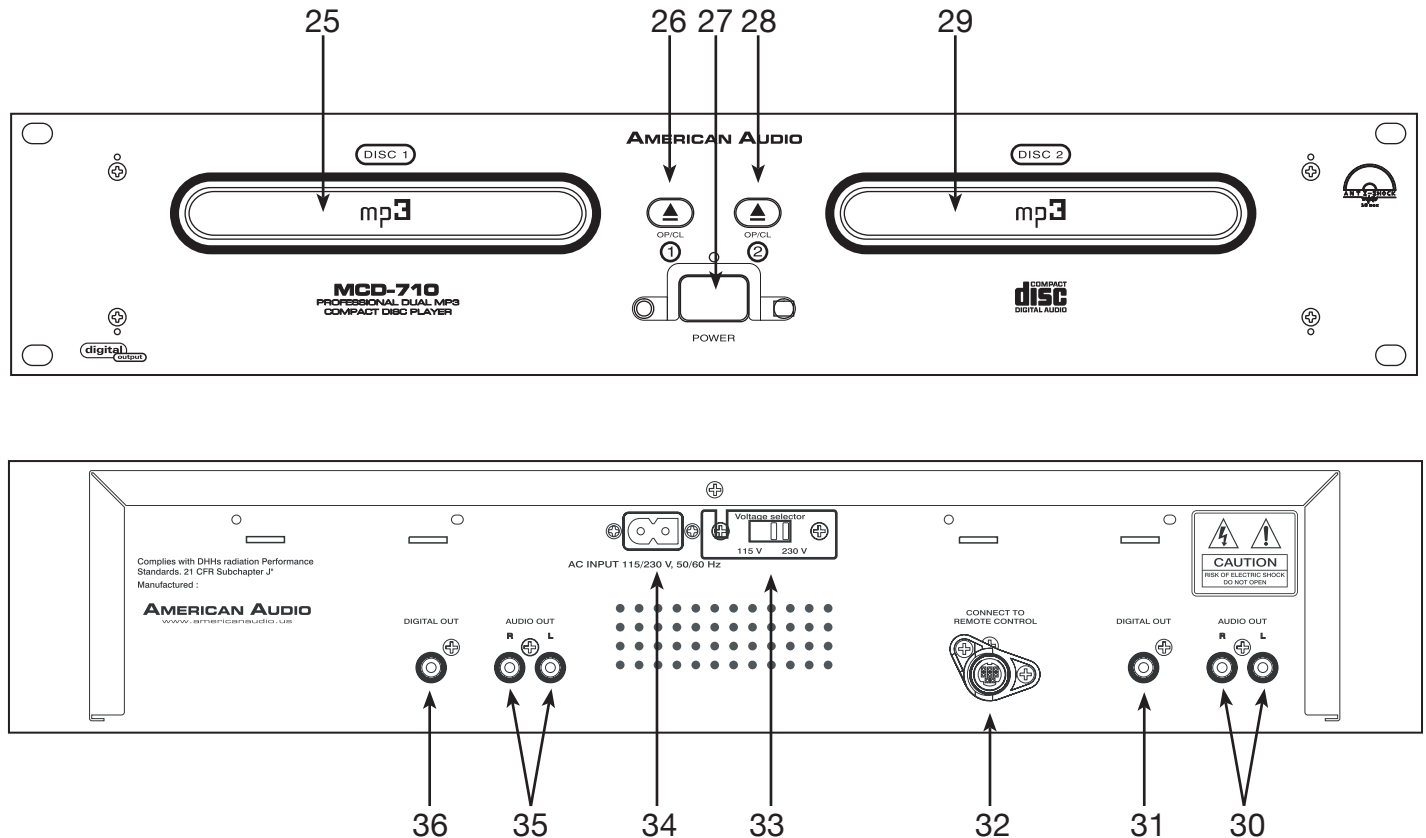

Figure 4
B. TRANSPORT UNIT (FIGURE 4)
25. DRIVE 1 TRANSPORT TRAY - This tray is used to load and unload a compact disc in to the drive 1 mechanism. The tray is opened and closed by pressing the DRIVE 1 OPEN/CLOSE BUTTON (26). Never attempt to force the to transport tray open or close when the power is turned off.
29. DRIVE 2 TRANSPORT TRAY - This tray is used to load and unload a compact disc in to the drive 2 mechanism. The tray is opened and closed by pressing the DRIVE 2 OPEN/CLOSE BUTTON (28). Never attempt to force the transport tray to open or close when the power is turned off.